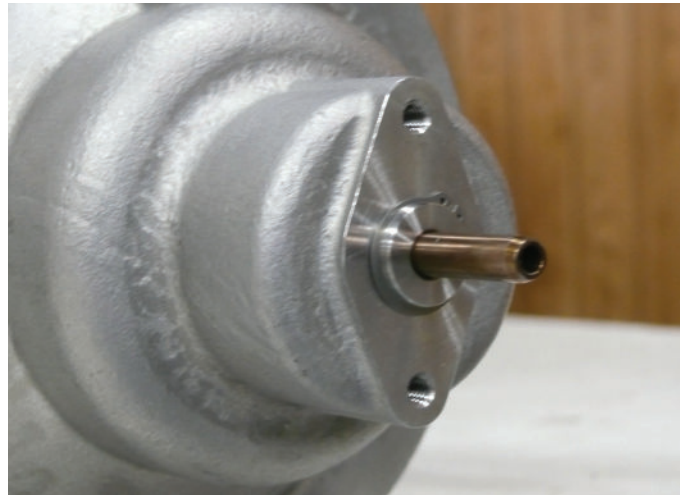

Figure 9-11 Remove Retaining Ring
7. Remove retaining ring (Item 32) and indicator gland (Item 29) from cover. (Figure 9-11)